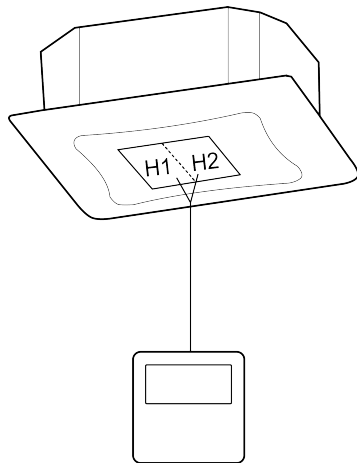
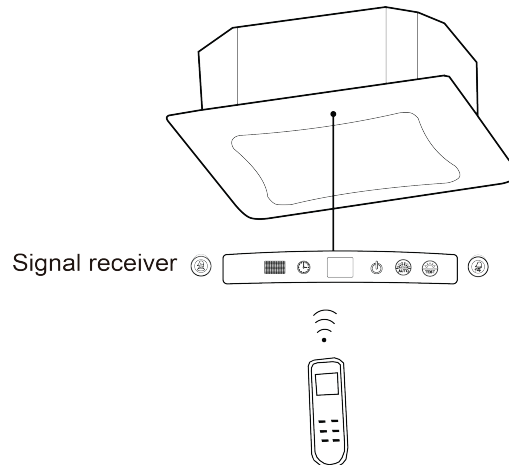

Fig.5.4.1
Fig.5.4.2
1) Wired controller is shown as Fig.5.4.1, wireless controller is shown as Fig.5.4.2, signal receiver is provided with panel as standard accessory.